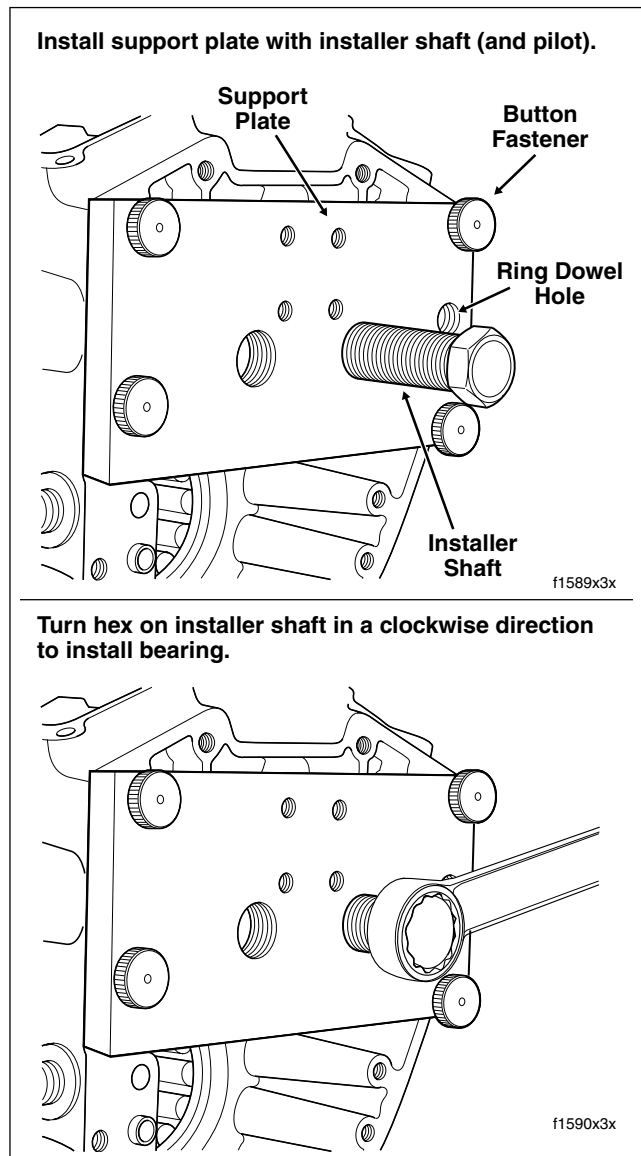

Figure 3-118. Install Cam Needle Bearing
7. Align four holes at corners of support plate with threaded holes in crankcase flange. Install button fasteners in these holes to secure support plate to crankcase. See upper frame of Figure 3-118.
8. Using 15/16 inch open end wrench, turn hex at end of installer shaft in a clockwise direction until resistance is felt. See lower frame of Figure 3-118.